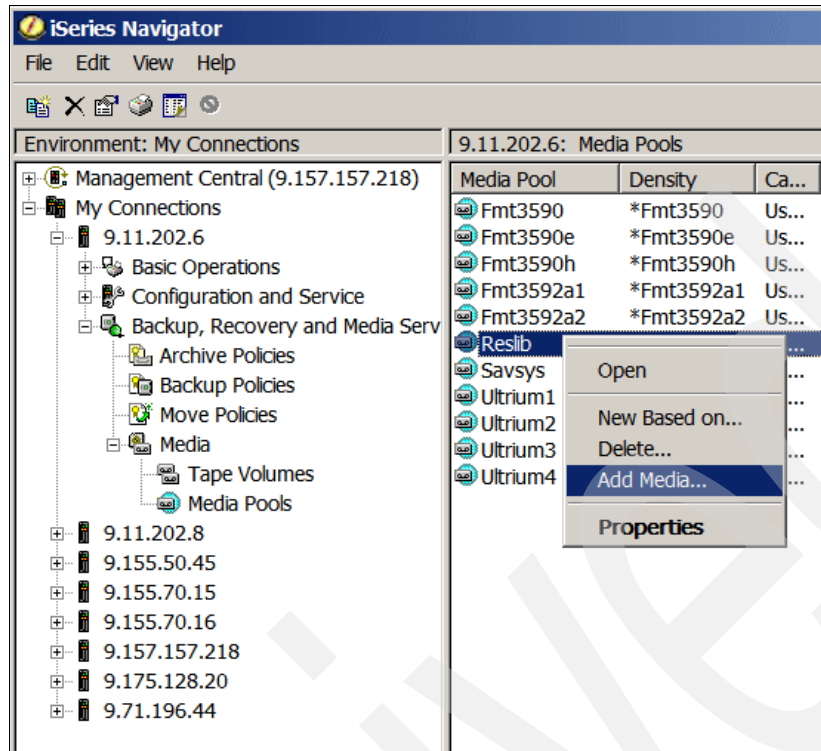

Figure 6-5 Add media
- To add media to a created media pool, right-click it and select **Add Media** from the pull-down menu that pops up. This is shown in Figure 6-5.